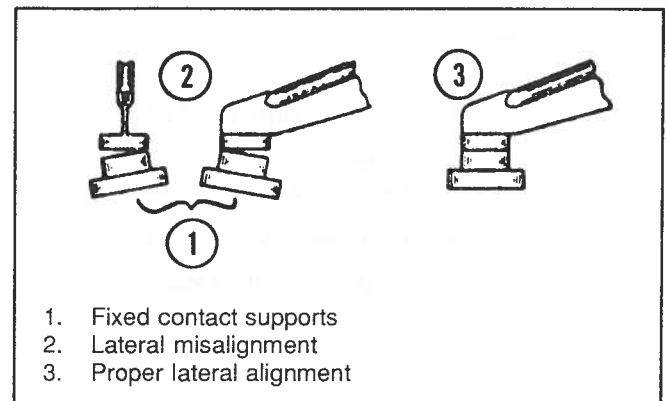

Figure 6-37. Contact-Point Alignment
7. Check the points from proper alignment (see Figure 6-37). If the points do not align properly, replace with another set of points, or bend the fixed contact supports. Never bend the breaker point.